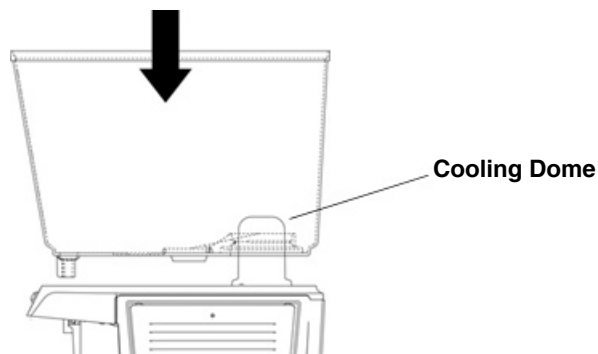

Figure 4.
5. Slide bowl over the cooling dome and assemble the bowl to the dispenser. Be careful not to wrinkle the gasket. If gasket is wrinkled, beverage will leak out of bowl. See Figure 4.